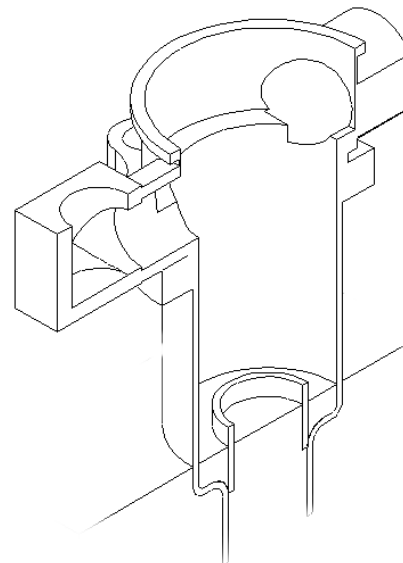

Fig 3-19 Hydraulic tank filler
7. If level is low, fill through the filter housing until the level is 6 mm below the tube in the base of the filter housing (Fig 3-19).